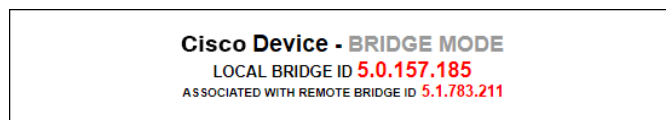

Figure 42. Configurator interface (Unit ID information)
- The unit ID number of the local unit is shown as the **LOCAL BRIDGE ID** (Figure 42 (page 103)).